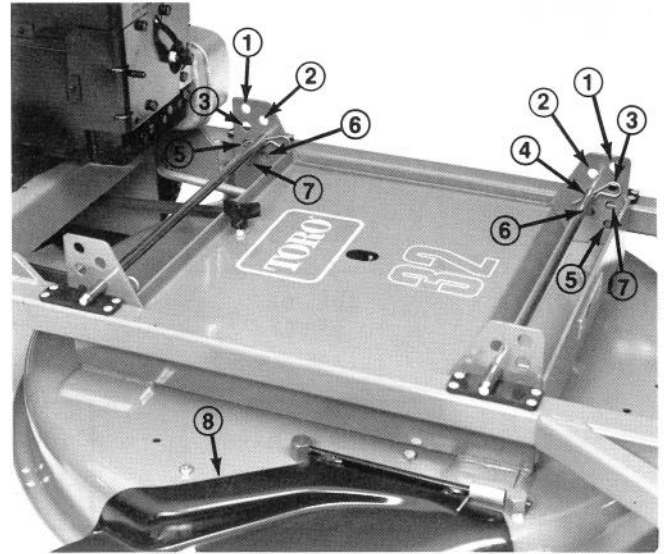

Figure 5
The height-of-cut is adjustable from 1 to 4 inches (25 to 102 mm) in 1/2 inch (13 mm) increments by relocating support rods in different hole locations in brackets at each corner of the cutting unit (Fig. 5).
1. Remove (4) hair pin cotters securing support rods in brackets (Fig. 5).
The grass deflector (Fig. 5) is a safety device that diverts grass and other foreign objects being discharged downwardly. WE STRONGLY RECOMMEND THAT THE DEFLECTOR BE IN THE LOWEST POSITION WHENEVER THE MACHINE IS USED NEAR BUILDINGS OR WHEN THERE ARE PEOPLE OR ANIMALS IN THE AREA. THE BLADE CAN THROW DEBRIS A CONSIDERABLE DISTANCE WITH SUFFICIENT FORCE TO CAUSE PERSONAL INJURY OR DAMAGE TO PROPERTY. THE ONLY TIME THE DEFLECTOR SHOULD BE IN THE UPPER POSITION IS WHEN THERE IS NO POSSIBILITY OF INJURY OR DAMAGE. NEVER OPERATE CUTTING UNIT WITH DEFLECTOR REMOVED FROM CUTTING UNIT OR MOVED TO MORE OPEN POSITION. NEVER CHANGE DEFLECTOR HEIGHT WHEN THE BLADE IS TURNING. If the grass deflector is damaged, repair or replace the affected part(s).